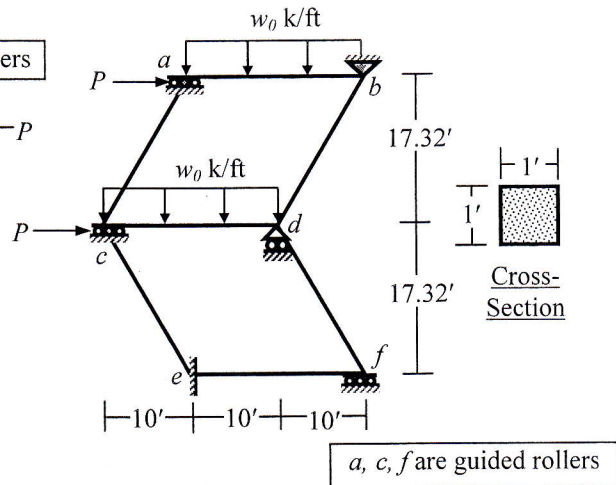

Fig. 7
7. Consider flexural deformations and geometric nonlinearity to calculate the rotation at joint b and d of the frame $abcdef$ loaded as shown in Fig. 7 [Given: $E = 500 \times 10^3 \text{ k/ft}^2$].
8. Consider flexural deformations only with consistent mass matrix to calculate the natural frequencies of the frame $abcdef$ shown in Fig. 7 [Given: $E = 500 \times 10^3 \text{ k/ft}^2$, Unit weight = 0.15 k/ft^3].
9. Consider axial deformations only with lumped mass matrix to calculate the natural frequencies of the frame $abcdef$ shown in Fig. 7 [Given: $E = 500 \times 10^3 \text{ k/ft}^2$, Unit weight = 0.15 k/ft^3].